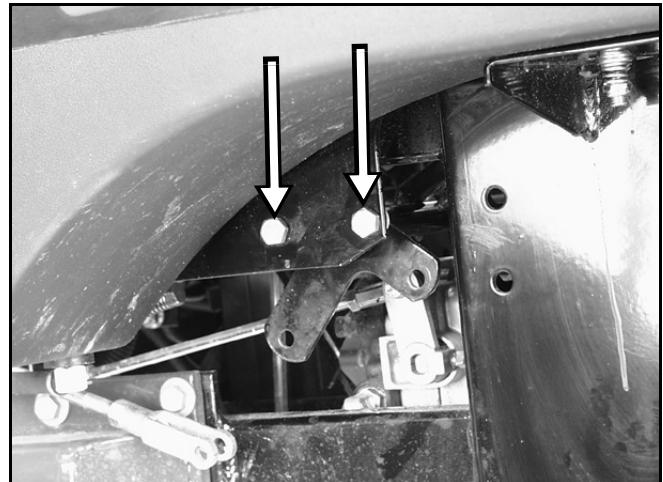

Figure 83
10. Then remove the brake shaft bearing bolts at either end of the shaft (Figure 83).